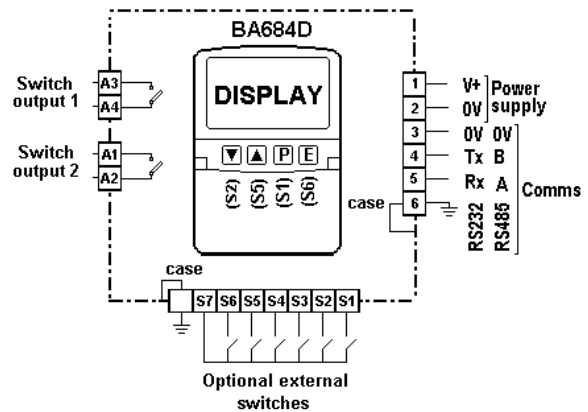
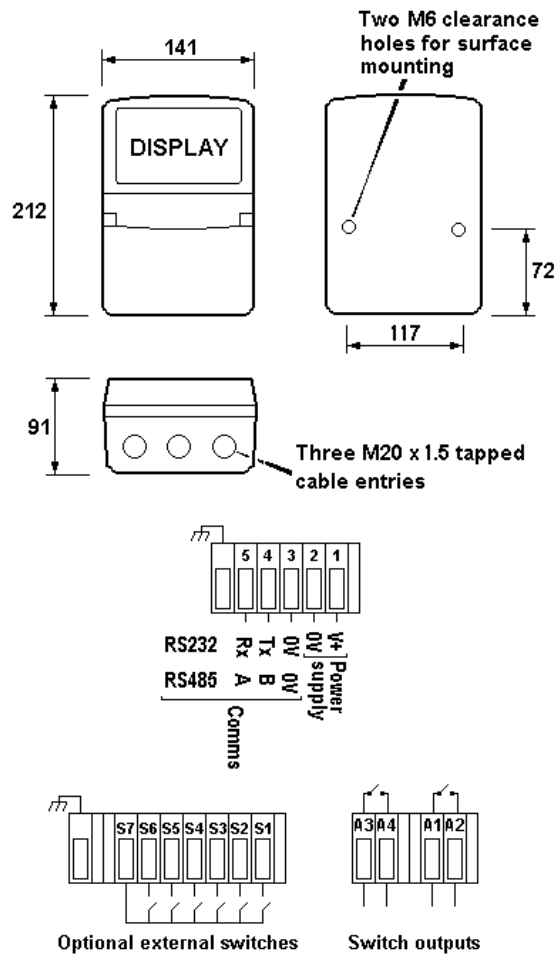

Fig 1 Simplified block diagram of BA684D
Fig 4 Dimensions and terminal connections
Fig 1 shows a simplified block diagram of a BA684D serial text display. Two versions are available, one has an RS232 port and the other an RS485 port. The type of port is shown on the label fixed to the inside of the terminal cover. The two switch outputs may be controlled and the operator switches interrogated via the serial communication link.
Figure 1 shows a functional block diagram of BA684D serial text display. Terminal locations are shown in Fig 4.
- Connect the field wiring to the terminals as shown in Fig 4.